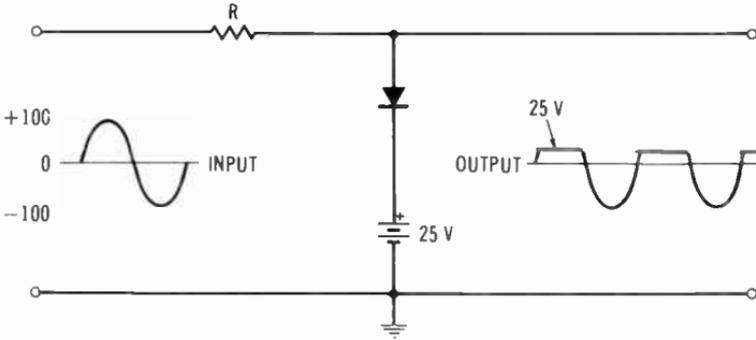

Fig. 7-19. A limiter circuit.
- Q7-30. How could the limiter circuit in Fig. 7-19 be used for negative limiting?